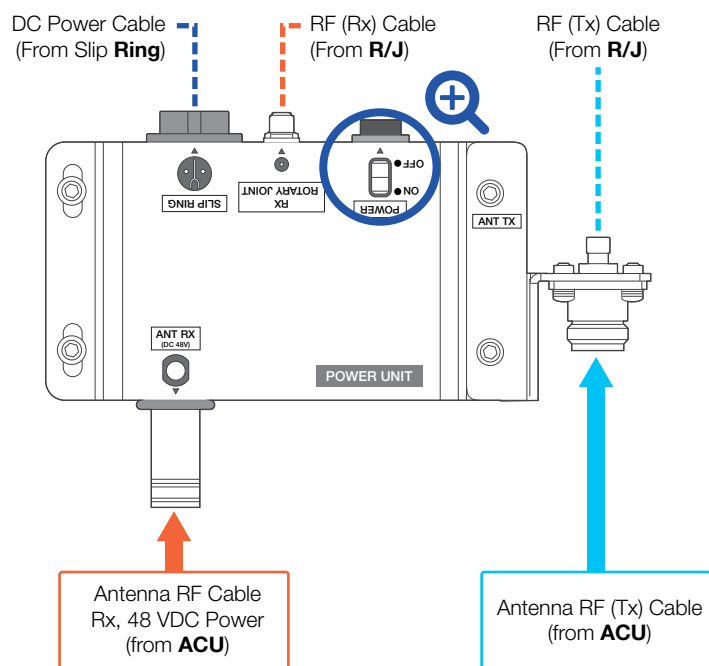

Figure 19: Cable Connection to Power Switch Unit
2. Terminate the RF cables with N (M) connectors inside the radome. Intellian recommends using genuine cable connectors and tools. Refer to the cable termination instructions provided by the connector manufacturers.
3. Connect the RF cable to the power switch unit inside the radome. Ensure that the cable is firmly fastened to the connector and fix it on cable mounts using cable ties. When the cable is installed completely, turn on the power switch. (See figure 19.)